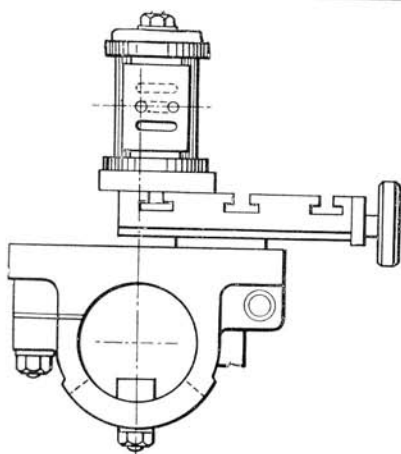

Fig. 4.
The cross slide, which is fitted with square slides, steel screw, and polished handwheel, has the particularly valuable feature of **height adjustment**. The saddle may be partially rotated around the bed, and locked at any angle **without disturbing the provision for sliding**. It will be seen that swinging the saddle round the bed has the effect of raising or lowering the slotted work tables in relation to the lathe centres. A glance at Figs. 4 and 5 will make this clear. This adjustment may be used for setting the centre height when boring, for putting on the cuts when milling, setting turning and boring tools to centre height, for positioning drilling and end-milling work, etc., and it will be found an immense advantage; it does away with numerous packing pieces under work and tools, and enables several operations to be performed on a piece at the one setting.
Fig. 4.—Milling Steam and Exhaust Ports in Steam Engine Cylinder casting, with end mill. Work bolted to topslide with bolt through centre. Heights of cuts obtained by swivelling saddle round bed, as in Fig. 5, or by use of packing of correct thickness.
Fig. 4.—Line up piston to scribed lines, and clamp in position. Drill the pin holes, leaving enough metal to finish with a single pointed boring tool. Finish bore the pin holes with boring tool set in boring bar (G) running between centres. Face the bosses with facing cutter also set in boring bar as shown (F).